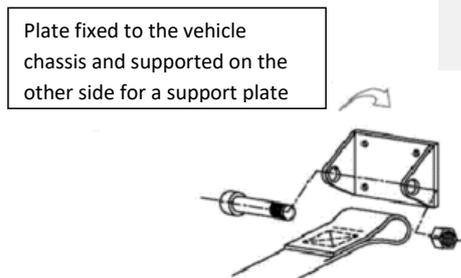

Figure 2 - Shoulder straps fixing system
- 2) Shoulder straps fixing system: see Figure 2